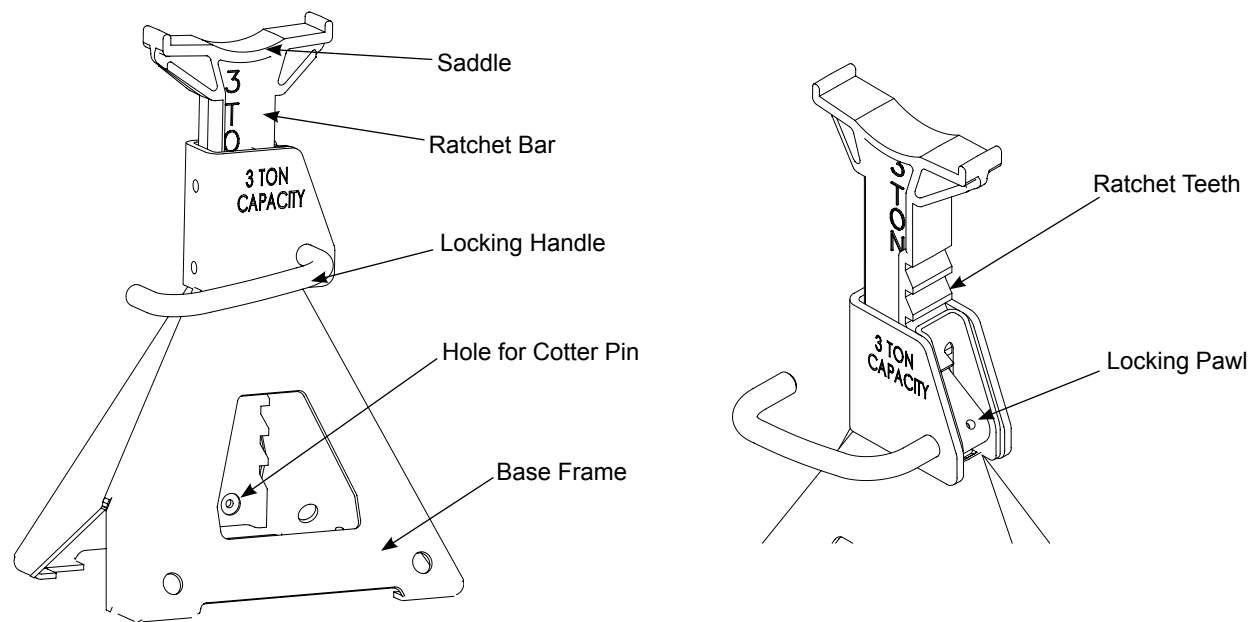

Figure 1 - Jack Stand Components
(refer to Figure 1 for location of components)
1. Verify that the product and the application are compatible, if in doubt call Hein-Werner Technical Service (816) 891-6390.
6. Insert cotter pin into the bottom hole of the ratchet bar to prevent inadvertent loss of the ratchet bar (refer to Figure 1).